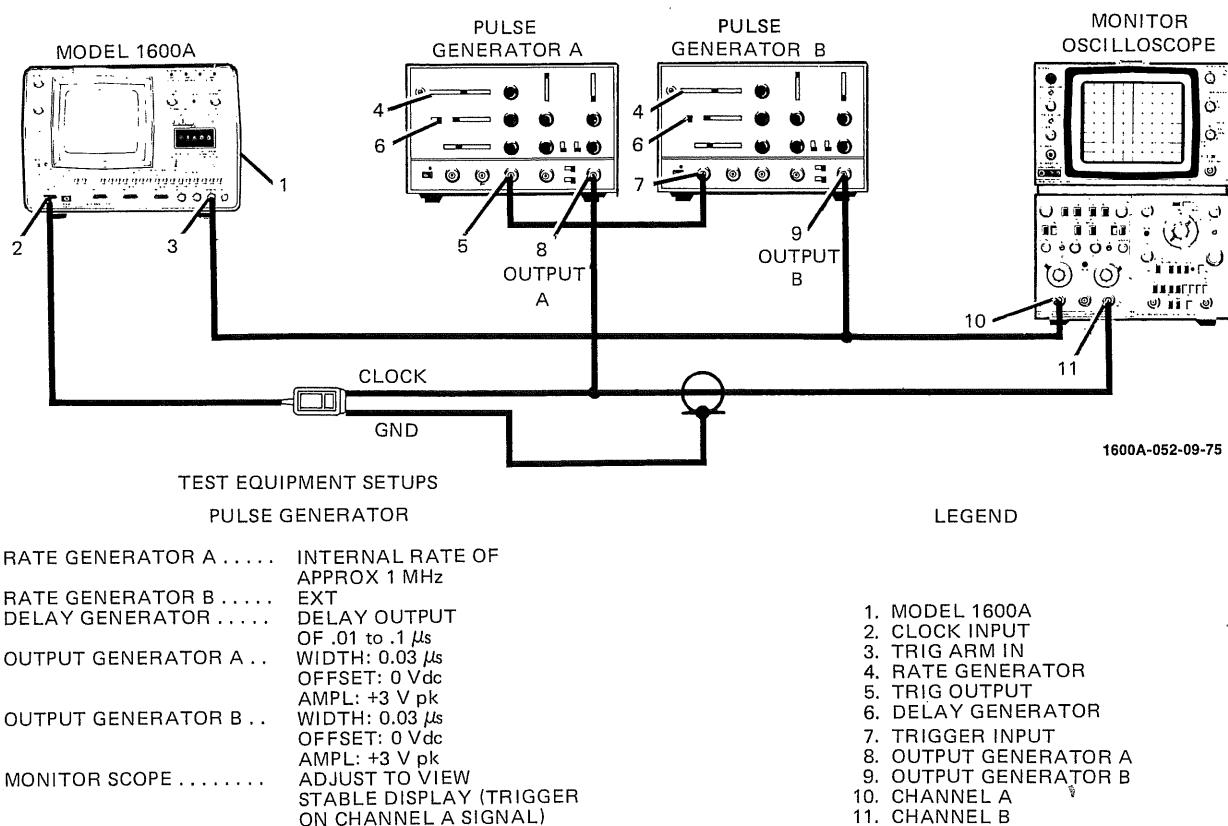

Figure 5-7. Trigger Arm Test Setup
e. Connect test equipment as shown in figure 5-7, and apply waveforms shown in figure 5-8 to CLOCK INPUT and TRIG ARM input.